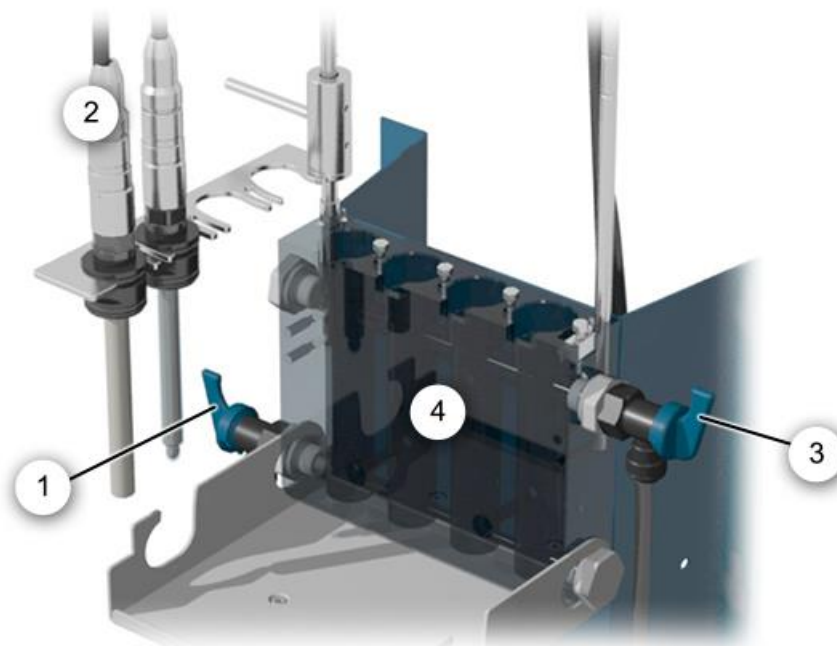

Figure 18: Instrument overview of AquaMaster
2.	Remove all sensors from the measuring cell block and position in the locking device (Figure 18, pos. 2).  <div style="border: 1px solid black; padding: 2px; display: inline-block;"> i Submerge pH sensor and Conductivity sensor in container with water to protect them from drying out. Do not use distilled water but rather clean tap water.                 </div>
3.	Remove hose on the measuring cell block inlet flow regulator valve (Figure 18, pos. 1), open inlet regulator valve and let the measuring cell block drain into a container until empty.
4.	Clean measuring cell block (Figure 18, pos. 4) with bottle cleaner.
5.	Refasten inlet hose (Figure 18, pos. 1).